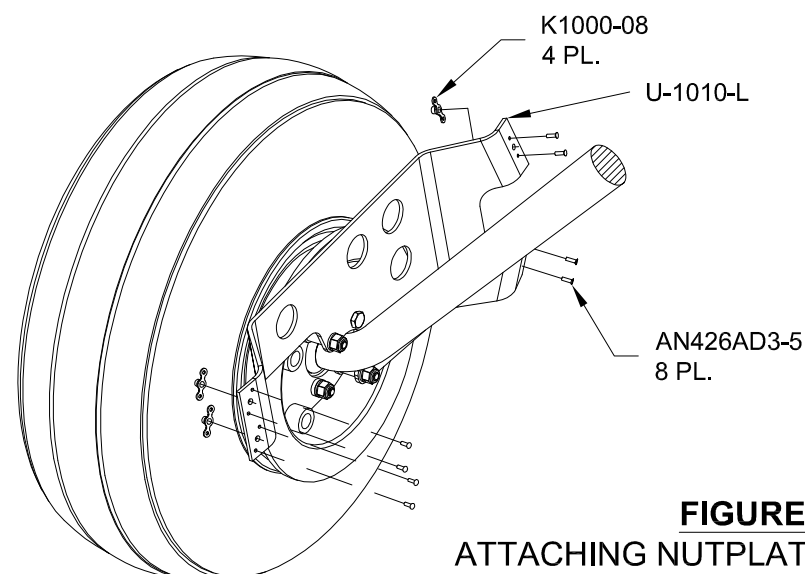

FIGURE 2:
Step 2: Final-Drill #19 the four nutplate screw holes in the U-1010-L Main Wheel Fairing Bracket as shown in Figure 2. Final-Drill #40, countersink and deburr the nutplate attach holes as shown in Figure 2 and attach the hardware as per the callouts.